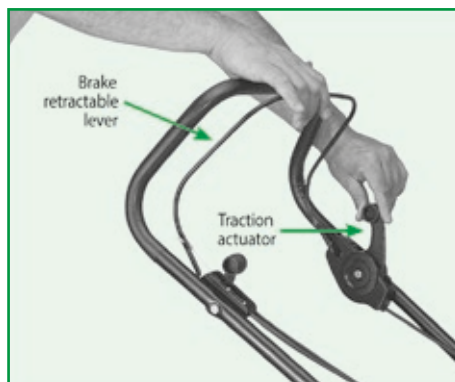

Figure 1
- ✓ Keep the motor brake retractable lever in operation position (Fig. 1 and 2).